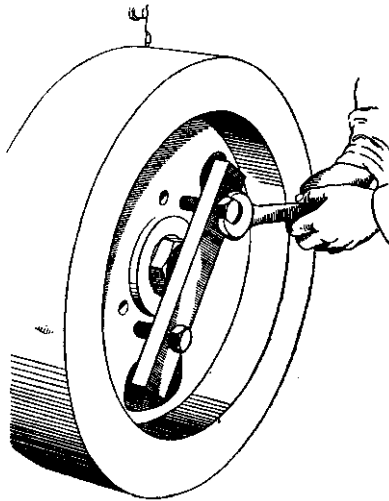

Fig. 3
- iii. With tool No. 3950 IW. comprising a steel bar, 2 studs with nuts and washers used in the manner indicated in Fig. 3, i.e., with the lock-nut providing centre support, tighten the withdrawing nuts so that the bar is parallel with the face of the wheel; next, with a lead hammer, give a sharp blow to the centre of the bar—when the wheel should spring clear of the taper—the nut preventing the wheel from falling off the end of the shaft.